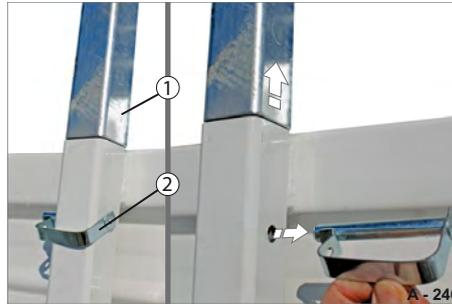

Fig. 175 Unlocking the support frame
- ▶ Pull the spring pin bolts (Fig. 175/2) out of the post pockets.
- ▶ Pull the support frame (Fig. 175/1) slowly and simultaneously out of the post pockets.